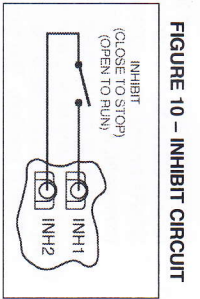

FIGURE 10 – INHIBIT CIRCUIT
J. Inhibit Connection – The control is supplied with inhibit terminals (INH1 and INH2) to connect an Inhibit switch. See Figure 10.